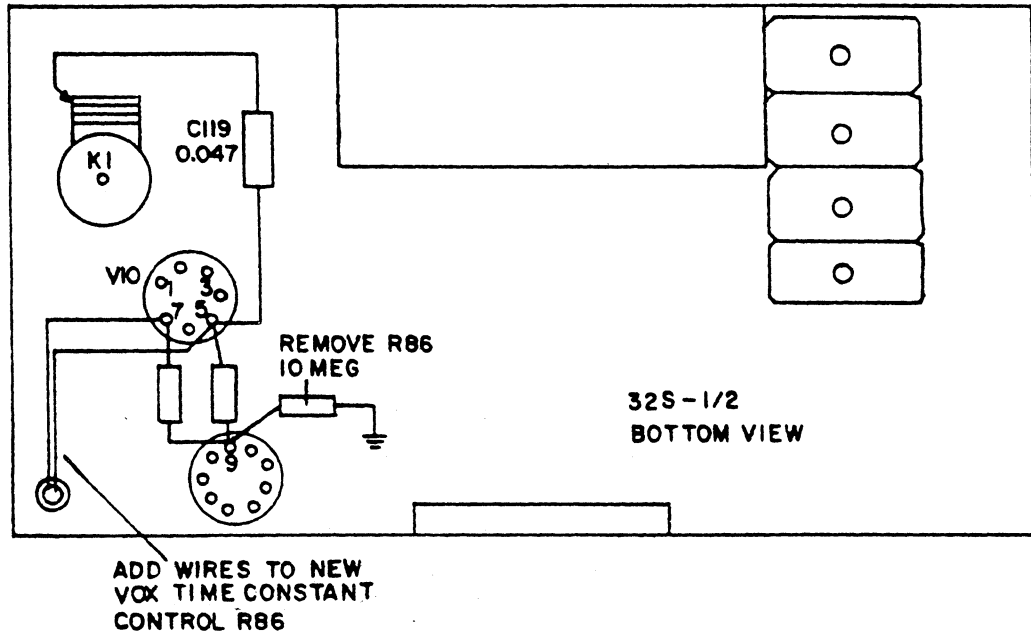

Figure 2. Parts Location - After Modification
4. Remove and discard 10-megohm resistor R86 connected between V11, pin 9 and ground. Refer to figure 2.
5. Remove and discard 0.022-uf capacitor C119 connected between V10, pin 5 and vox relay K1. Replace with 0.047-uf capacitor (931-0295-00). Use sleeving (152-1613-00) on leads. Refer to figure 2.